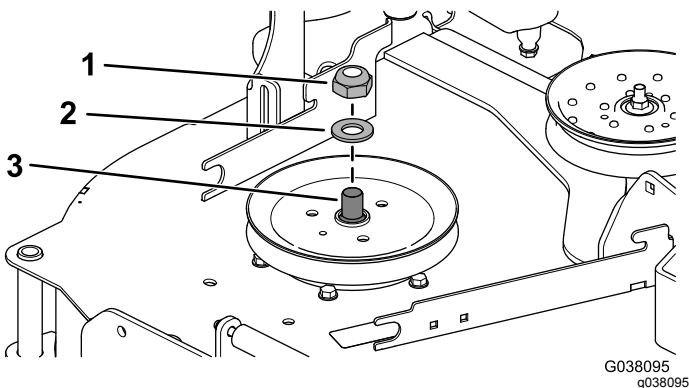

Figure 27
3. Use a wrench (1-1/2 inches) to hold the spindle shaft, as you remove the locknut (3/4 inch) and washer from the spindle shaft (Figure 27).